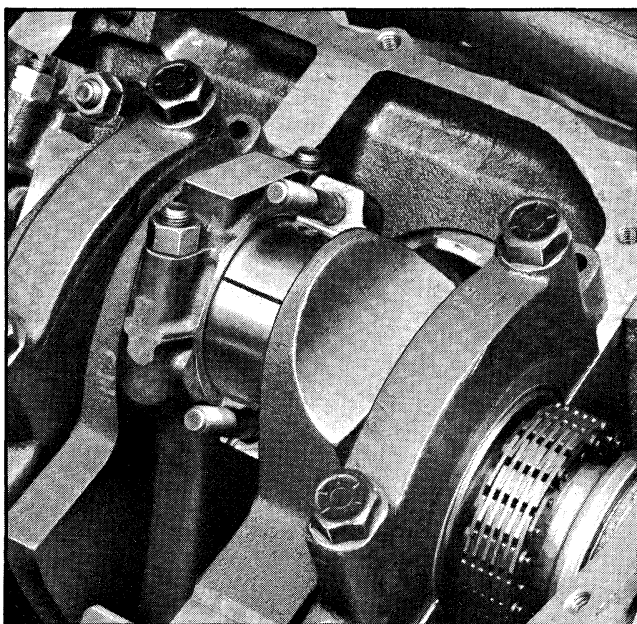

Fig. 6-138 Plastigage on Crankpin
2. Place a piece of Plastigage the length of the bearing (parallel to the crankshaft) on the crankpin or bearing surface, Fig. 6-138. Install the cap and tighten cap bolts to 45 lb. ft.